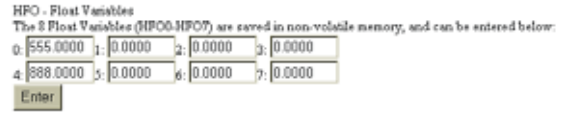

FIG. 173: MAPPING DISPLAY/HFO - FLOAT VARIABLES/ENTERING A VALUE FOR WORD 0
- Type in a value. For our example we used the value "555.0000". (See Fig. 173)